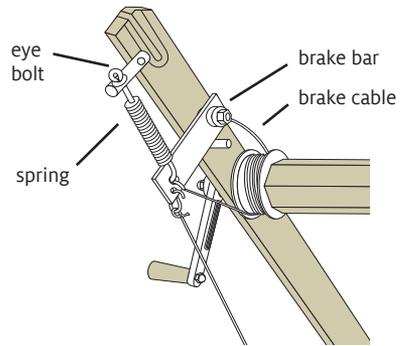

FIGURE 6: FRICTION BRAKE
19. The friction brake can be adjusted by tightening or loosening the eye bolt (Figure 6). This will increase or decrease the tension on the spring, which will in turn increase or decrease the tension on the brake bar and the brake cable.